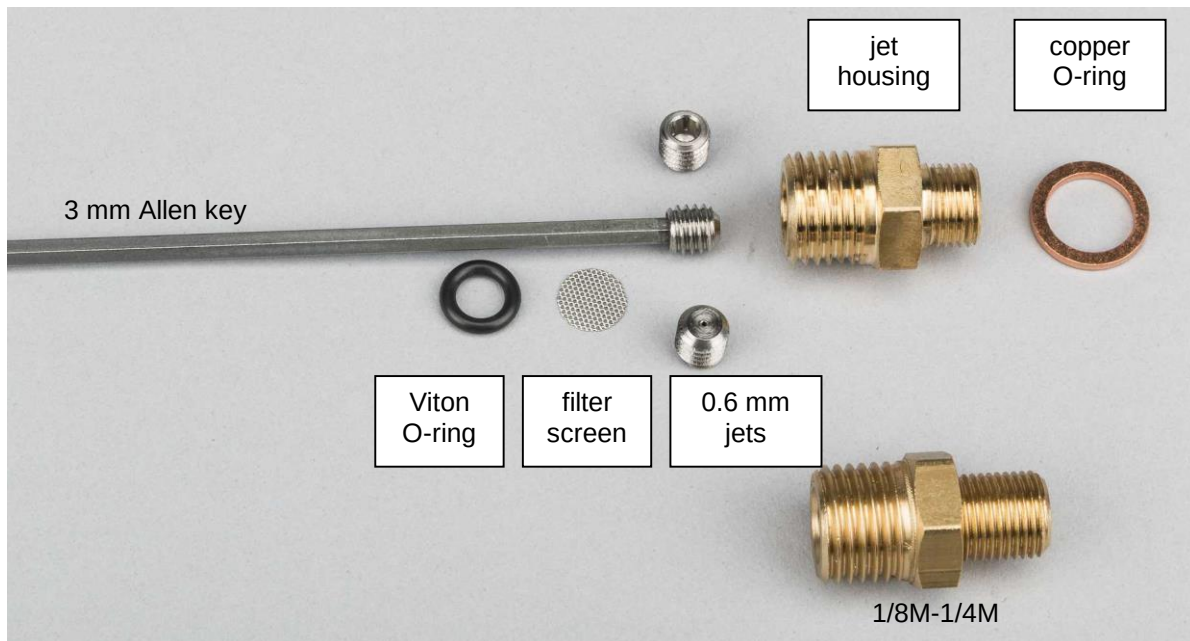

Figure M 6. Exploded view of jet and housing. Three jets are shown, as well as an ordinary 1/8M-1/4M fitting; the jet housing has a lot shorter 1/8 threads.
10. Now clean the assembly or use a 3 mm Allen key to remove the jet from its housing. Retain the jet housing with a 14 mm spanner, see *Figure M 6*.